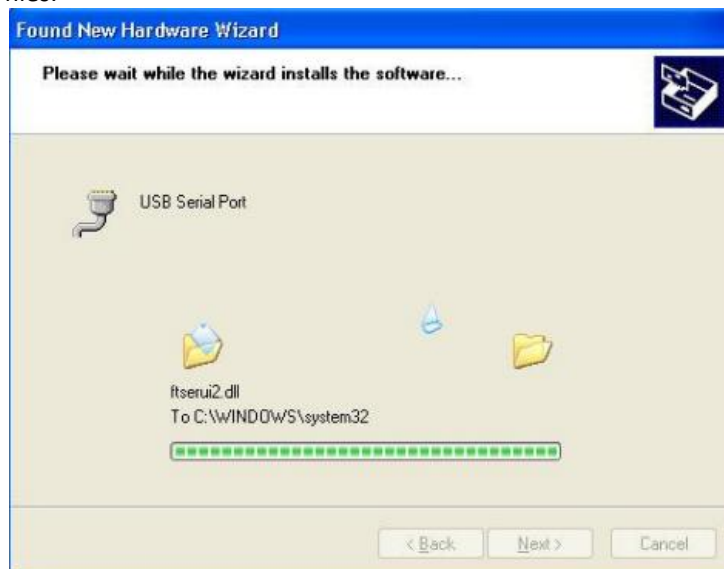

Fig. 2-20
- ◆ Select "Search for the best driver in these locations" and enter the file path in the combo-box ("C:\USB Drivers\USB Virtual COM Port Drivers Bits32" in Fig.2-20 below) or browse to it by clicking the browse button. Once the file path has been entered in the box, click next to proceed.